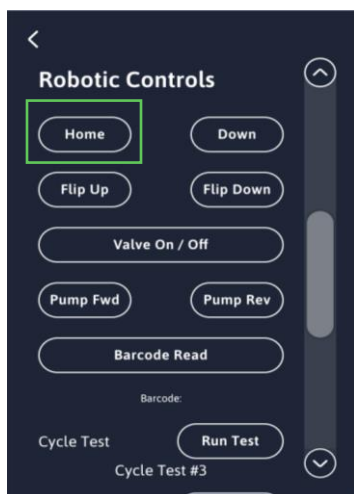

Figure 1
7. Press the “Home” button to ensure the miniiSED is ready and in position to receive the tube (Figure 1)